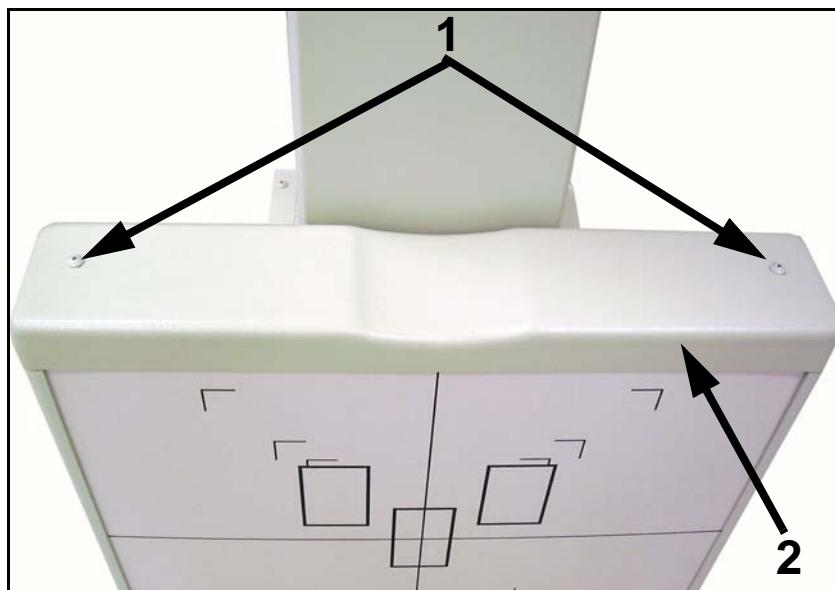

Figure 5-3. Top Cover Screws
- 5 Unscrew two top cover screws (1 in Figure 5-3) and remove top cover (2).